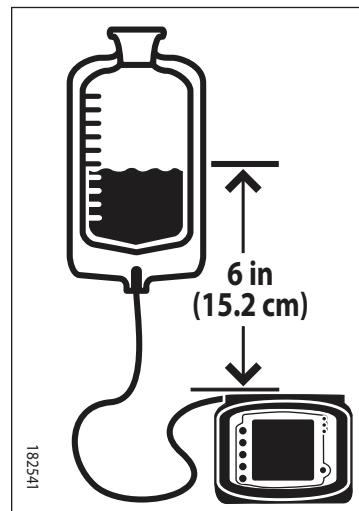

Figure 4B. Correct Fluid Level.
4. Suspend the pump set bag so that the top of the starting volume of formula is 6 inches above the pump (Figure 4B).
7. **The top of the starting volume of formula should be 6 inches above the pump (Figure 4B).**